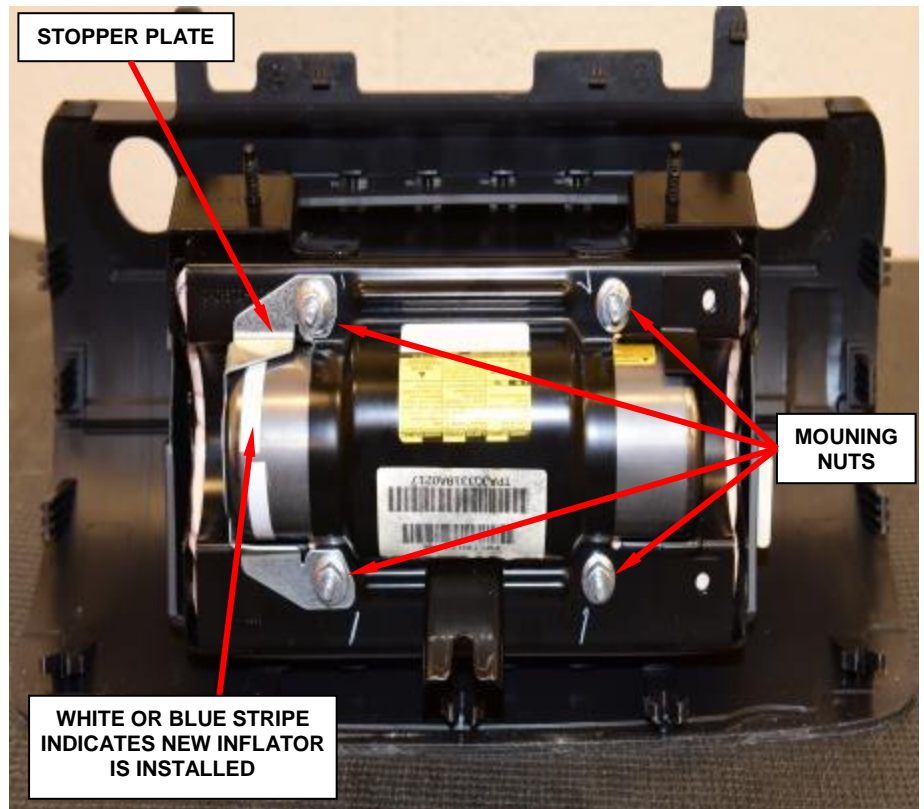

Figure 137 – Retrofit Complete
- o. Install the stopper plate to the airbag module (Figure 137).
- p. Install the four new mounting nuts to the airbag module and tighten to 62 in. lbs. (7 N·m) (Figure 137).
- q. Passenger airbag retrofit is complete (Figure 137).